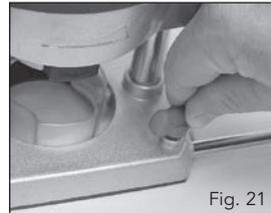

Fig. 21
2. Secure the guide fence rod (8) to the router at the required length by rotating the parallel guide locking knob (13) clockwise (Fig.21).